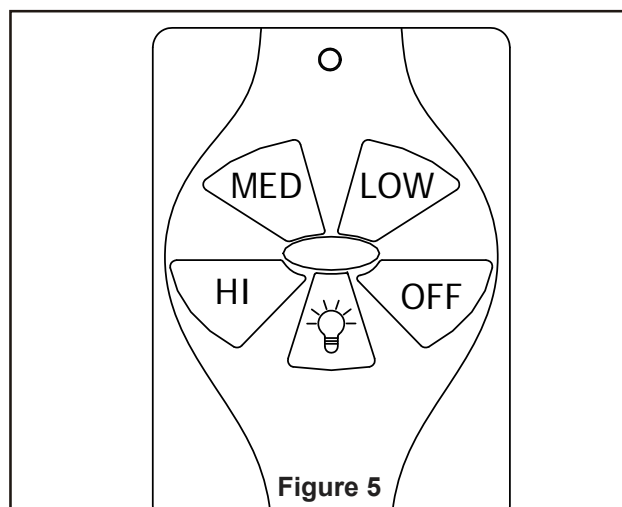

Figure 5
4. After connections have been made, the wires should be spread apart with the grounded conductor and the equipment-grounding conductor on one side of the outlet box and the ungrounded conductor on the other side of outlet box, then turn leads upward and carefully push leads into the outlet box, with the white and green leads to one side of the box and the black leads to the other side. (Figure 5)
5. Remote functions: (Figure 5)